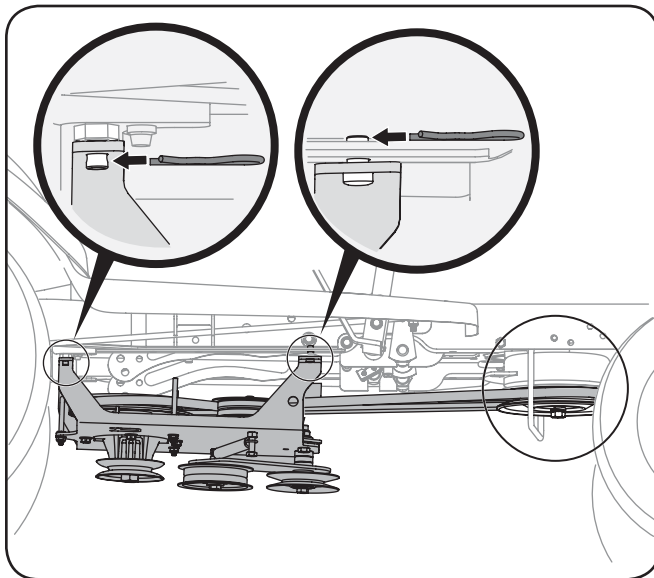

Figure 3-4
4. The weld pins on the top of the undercarriage assembly should go through the aligning holes found along the tractor's frame. See Fig. 3-4.
5. Fasten the undercarriage assembly to the frame with the hairpin clips removed in step 1. See Fig. 3-4. The hairpin clips will be inserted on the top in the front holes and in the bottom on the rear holes as seen in the inset below.
6. Route the upper drive belt around the engine pulley. See Fig. 3-4.